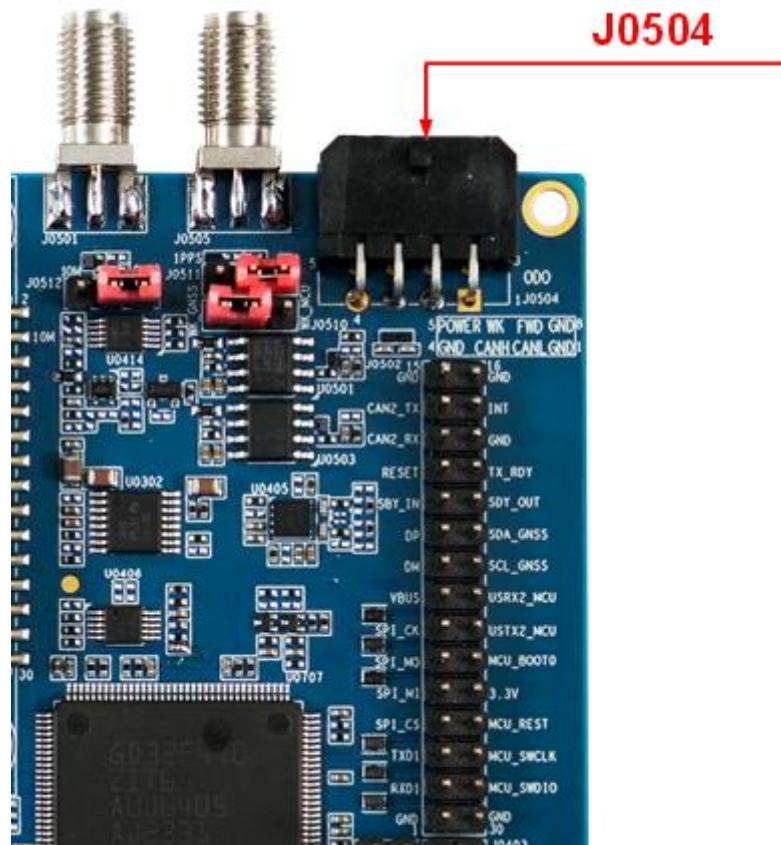
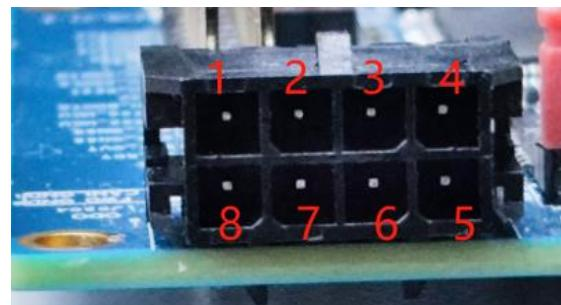

Figure 18: Connecting to EVB CAN Interface
Figure 19: J0504 Pin Assignment
**Step 4:** Connect the J0504 of the EVB with the corresponding interface of the vehicle, as shown in Figure 18: Connecting to EVB CAN Interface. Regarding J0504 pin assignment, see Figure 19: J0504 Pin Assignment and Table 6: J0504 Pin Description for details.